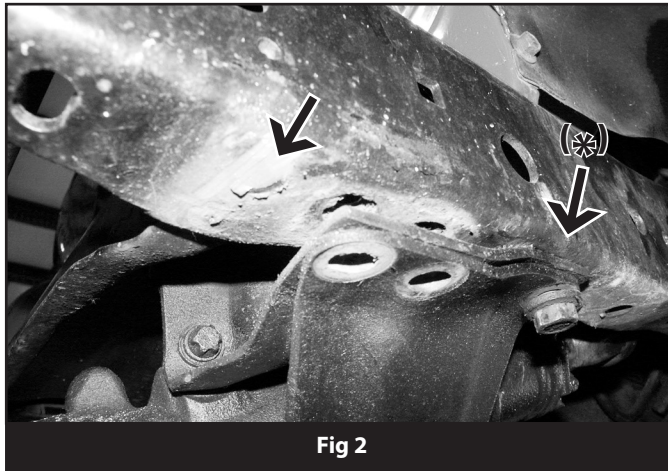

Fig 2
12. The forward-most frame crossmember rivet (original covered by the OE shackle hanger) must be removed. Using a grinder or air chisel, remove the head of the rivet and knock the body of the rivet from the frame with a hammer and punch. (Fig 2)
13. Remove lower rear steering box bracket bolt (*) (Fig 2)